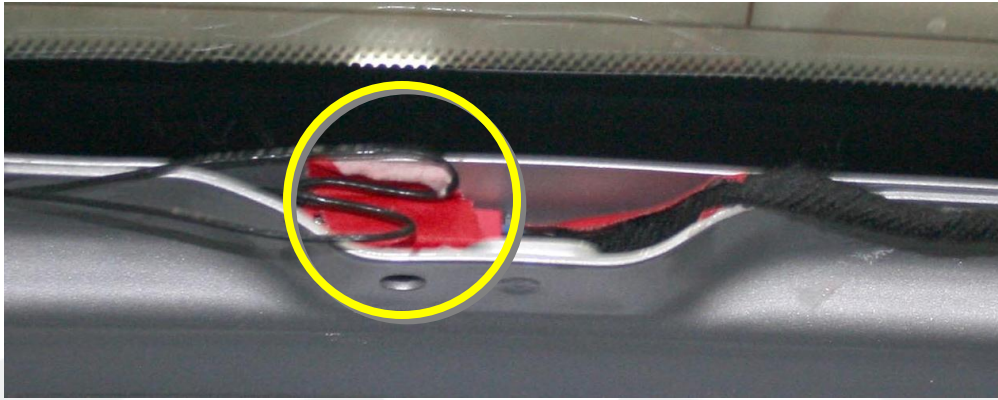

Figure 4
10. Disconnect the harness that attaches to the center high mounted stop lamp (CHMSL) (Figure 4). Tape the wires out of the way so that they are not damaged when the glass is removed in a later step.